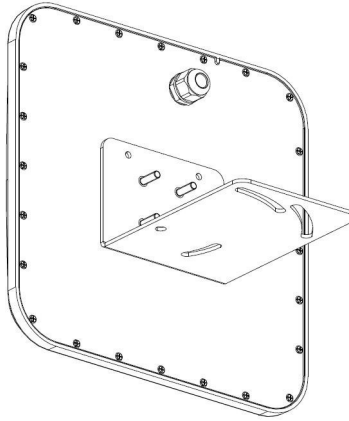

Figure 3-3 L-shaped mounting bracket installation
(1)Align the L-shaped mounting bracket against the screw poles on bottom of reader housing, then install the rubber and screw the M6 nuts, refer to Figure 3-3: